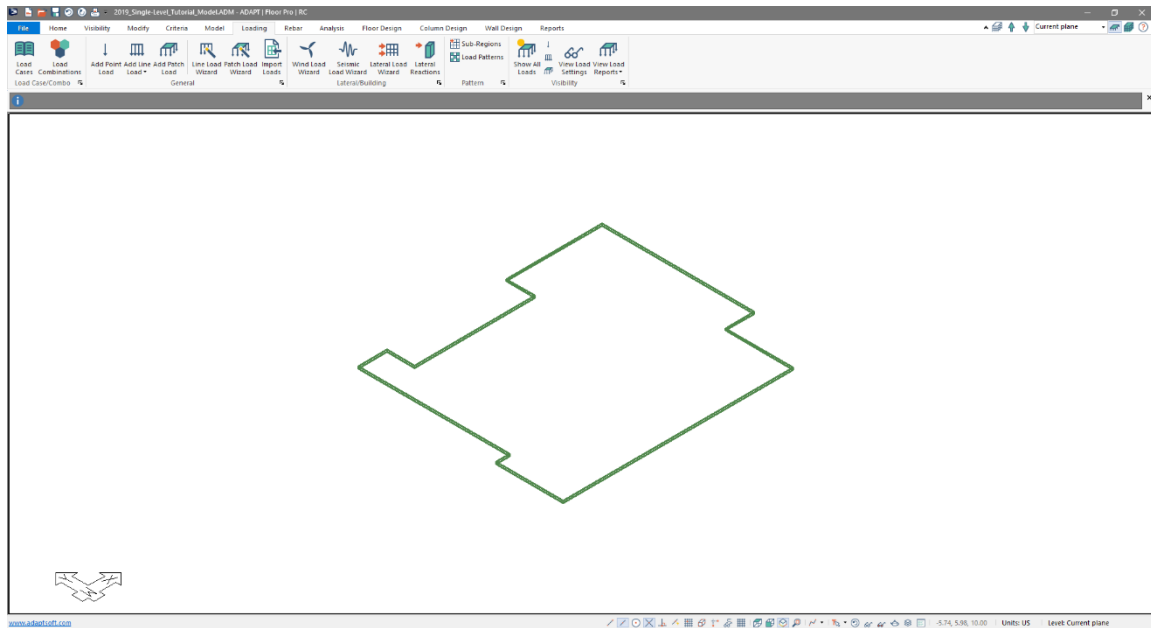

Figure 4-5
- Click on the *Top-Front-Right View*  icon in the **Bottom Quick Access Toolbar**. This will bring you to the view of the model shown in **FIGURE 4-5**.